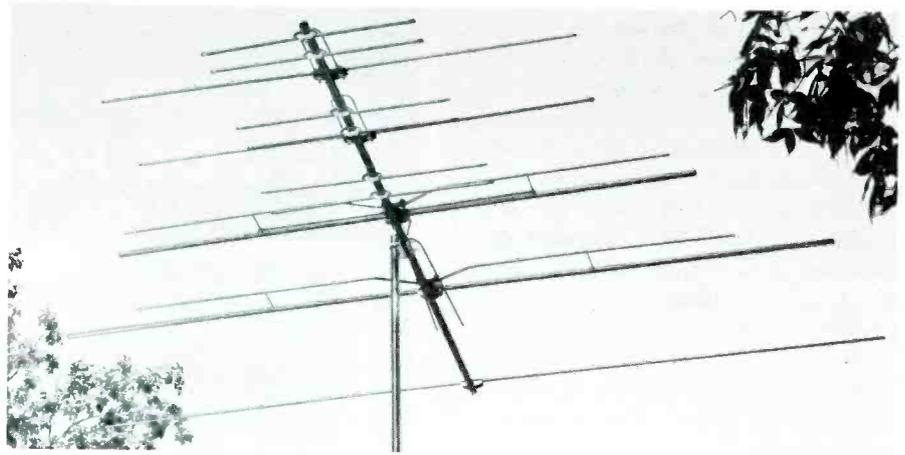
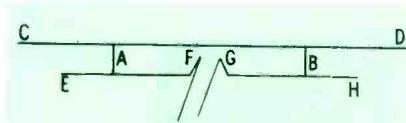

Fig. 14. Basis of Winegard "Color 'Ceptor" is T-matching sections toward rear.
Fig. 16. Drawing of T-matched element in Winegard high-gain, wide-band models.
The Winegard antennas shown in Figs. 14 and 15 both use, as their basic elements, the dipole arrangement shown in Fig. 16. The long back rod CD is continuous and connects to the shorter front element only through rods A and B. These two rods are each about 4" long and are made of metal. Connection to this antenna is made at the center of the shorter front element, points FG.
In the arrays shown in Figs. 14 and 15, two such combinations are employed. The front unit has a back rod of 70" and a front element that is designed to operate at the center of the high VHF band. The rear unit has a back rod of about 100" and a front section which is cut to operate at a frequency somewhat lower than the bottom end of the high band.
Here is the reason for this particular arrangement. Since EF and GH of Fig. 16 are each one-half wavelength long, the impedance at points F-G will be quite high—on the order of several thousand ohms. The conventional transmission line, on the other hand, has an impedance of 300 ohms. To produce a match between the two, we proceed as follows: The open-wire line connecting the two antennas is one-half wave long and open at one end (see Fig. 18), producing a high impedance at the other end of the line, where it connects to the forward antenna. Now, as we move in from either end of this line, the impedance decreases; at points X-Y, it is 300 ohms. It is here that the transmission line leading to the receiver is attached.
two arrays in Figs. 14 and 15. In the first array, there is a long reflector at the rear of the structure. This serves to reduce reception from the rear. Then come the two driven elements. Directly in front of the front driven dipole there are three sets of short directors, each with two rods.* Two rods are employed to produce the same electrical effect as a large diameter single rod. When the rods used are small in diameter, they tend to resonate quite sharply at one frequency, which makes them effective only at this frequency (as directors). At all other frequencies, their effectiveness is reduced sharply. This operating range can be broadened by increasing the rod diameter; however, for the desired coverage over the upper VHF band, a fairly large diameter would be required. Electrically, the same effect can be achieved by using two smaller diameter rods positioned close together, and that is the procedure followed here. Thus, the three sets of two small rods are equivalent to three large diameter directors.
* In Fig. 14, the first set of two short director bars can be seen clearly. However, due to the angle from which the photo was taken, the rear rod of each of the other two sets tends to be obscured.